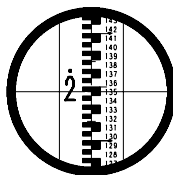

Fig.3.7
- 2) Adjusting the distance between eyepiece and reticle by turning diopter ring on eyepiece (9), stop turning until the reticle image become as clearly as possible.
- 3) Centering the object into field of view by turning fine adjusting knob (8) on telescope, then focusing by turning focusing knob (10).
- 4) Lightly up and down, right and left moving your eyes when observing telescope ( Fig.3.7 ).